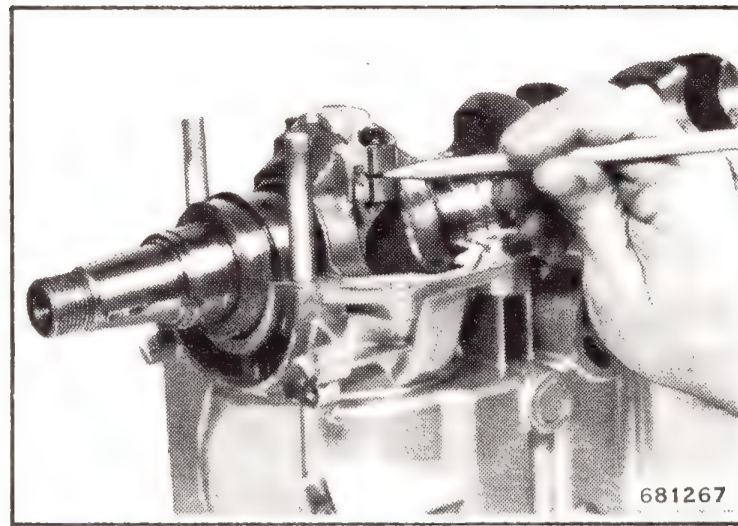
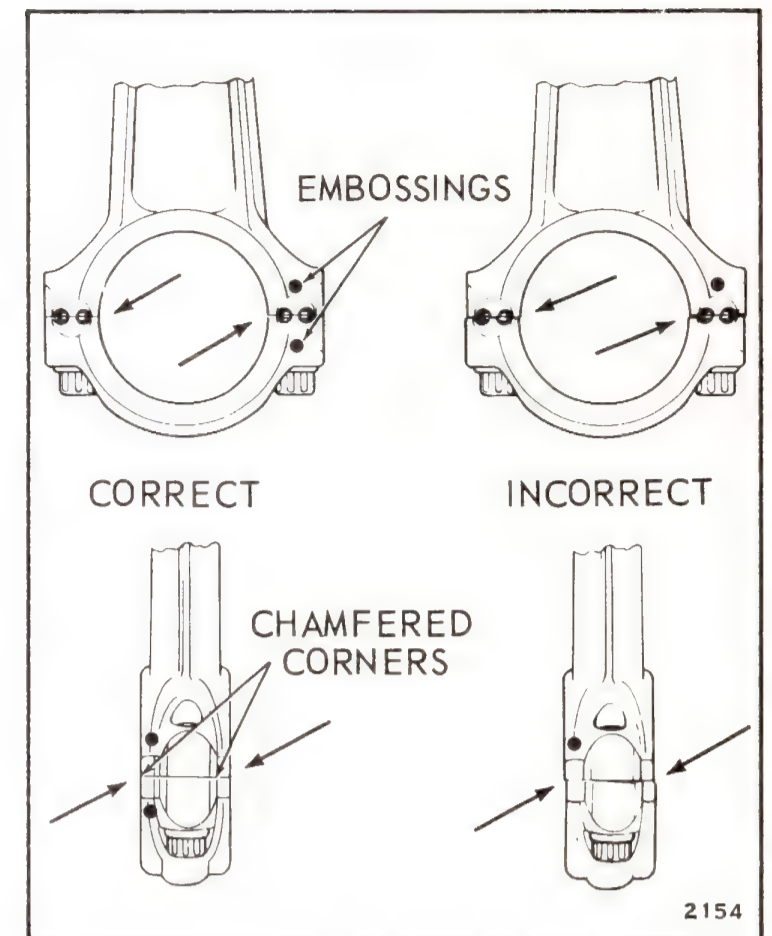

Figure 5-33. Rod and Cap Alignment
Figure 5-34. Correct and Incorrect Alignment
e. With roller bearings in place, attach connecting rod caps. Connecting rod caps are not interchangeable with those of other rods, neither may the caps of the same rods be turned end for end. To assist correct assembly, small raised dots are provided on matching sides of rod and cap. Draw a pencil over chamfered corners on both sides of rod to make certain that cap and rod are aligned at this point. If not aligned, chamfered corners can be felt with the pencil point. See Figure 5-33. Misalignment will affect free normal action of the rollers, and will result in major damage. See Figure 5-34.